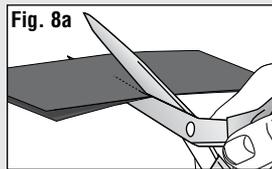

Fig. 8a
- Lay the two sheets on top of each other, then cut a slit half-way up the paper (**Fig. 8a**).